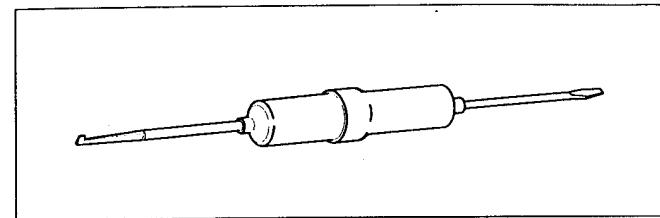

Figure B-10. Deutsch Connector Pick Tool
- Remove the secondary locking wedge. Use the hooked end of a stiff piece of mechanics wire a needle nose pliers, or a suitable pick tool (Part No. HD-41475-100). See Figure B-10.